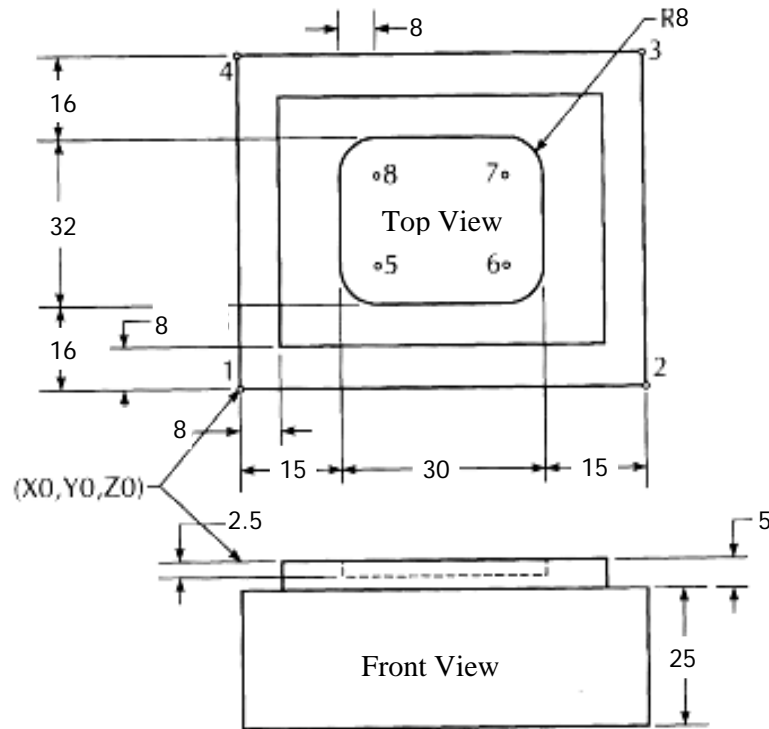

Figure Q4[a]
- Q4. [a] Complete the coordinate sheet and write a complete CNC part program for producing the component as shown in Figure Q4[a]. All dimensions are in millimeter. For your CNC program, use the workpiece datum as indicated in the drawing.**